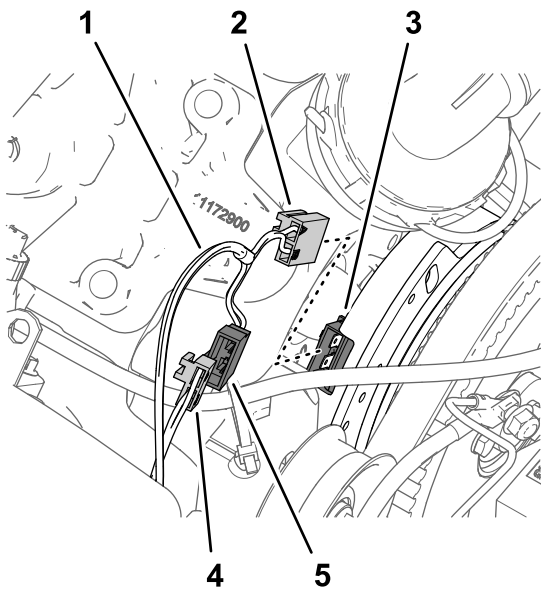

Figure 167
2. Connect the 2-pin connector of the kit wire-harness branch—84 cm (33 inches) labeled PUMP CLUTCH into the 2-socket connector of the machine wire-harness labeled SPRAY PUMP COIL (Figure 167).
3. Connect the 2-pin connector of the kit wire-harness labeled PUMP CLUTCH into the 2-pin connector of the alternator (Figure 167).